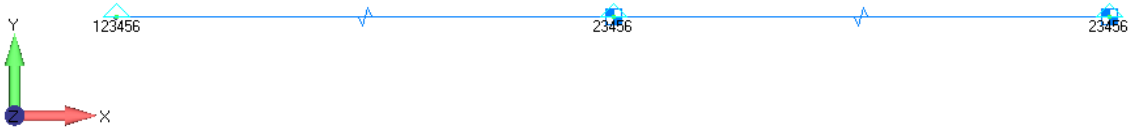

Figure 4-2. Two-DOF spring-mass model.
The two-DOF spring-mass model (Figure 4-2) consists of three nodes connected by two springs in series, with the left node fixed to ground and lumped masses on the other two nodes. The masses are only allowed to translate in the X direction. The two natural frequencies of the system are about 5% apart.
1. You will now perform a frequency response analysis on the 2 DOF model. Import the Nastran model "2dof\_modes\_base.dat" (Figure 4-2) into Femap and save as "2dof.modfem."